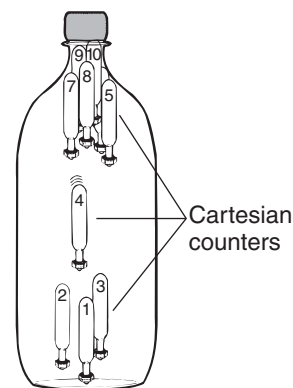

Figure 5.
3. **Cartesian Counters and Messages.** Place several numbered divers together in one bottle, but all with different densities, so they descend in order—1, 2, 3 . . . (or letter the divers to spell out a secret message!) (see Figure 5).